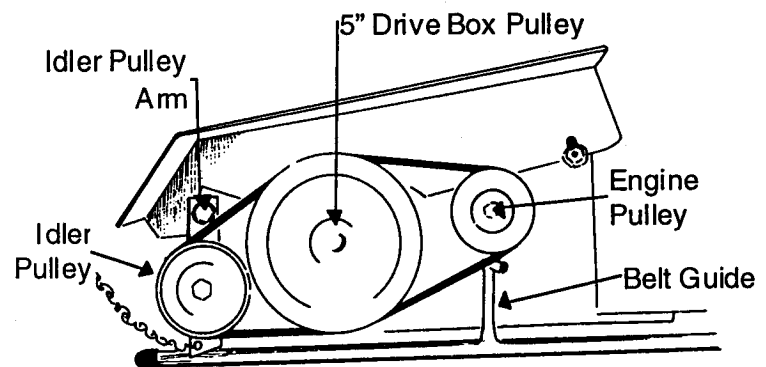

Figure 11
3. Remove the old wheel drive belt by lifting it out from the bottom of the drive box pulley, then looping it off the engine and idler pulleys (*Figure 11*).